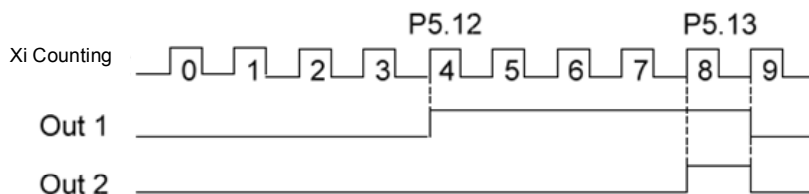

Fig.6-18 Schematic diagram for the preset and reaching counting value reference
2. The terminal Y1 is set to “10: Preset counting value action”, and the action sequence is shown as Out1 in Fig.6-18. Effective level will be output when the counting value is between the values of P5.12 and P5.13.
The terminal Y1 is set to “11: Reaching counting value action”, and the action sequence is shown as Out2 in Fig.6-18. Effective level will be output and kept till the counting value changes when the counting value reaches the value of P5.13.